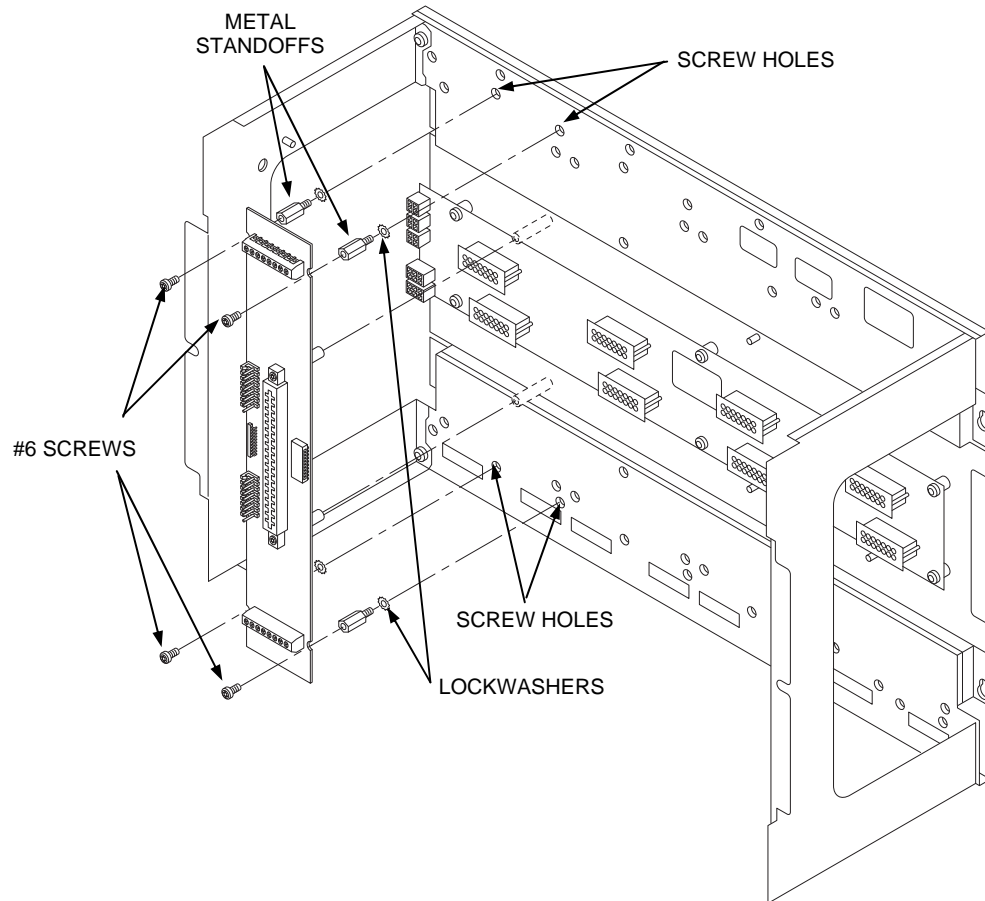

Figure 8. Installing the Motherboard in a 4100U/4100ES Expansion Bay
3. Secure the motherboard to the standoffs using four #6 torx screws as shown in Figure 8.